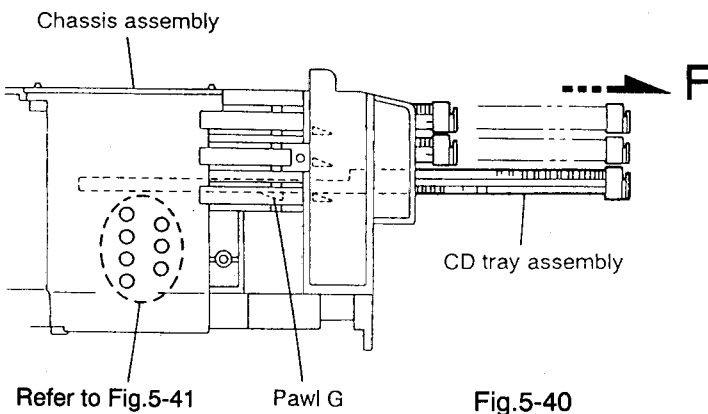

Fig.5-40
12. Make sure that the driver unit elevator is positioned as shown in Fig. 5-40 from to the second or fifth hole on the left side face of the CD Traverse mechanism assembly.
14. Pull out all of the three stages of CD tray assembly in the arrow direction "F" until these stages stop (See Fig. 5-40).